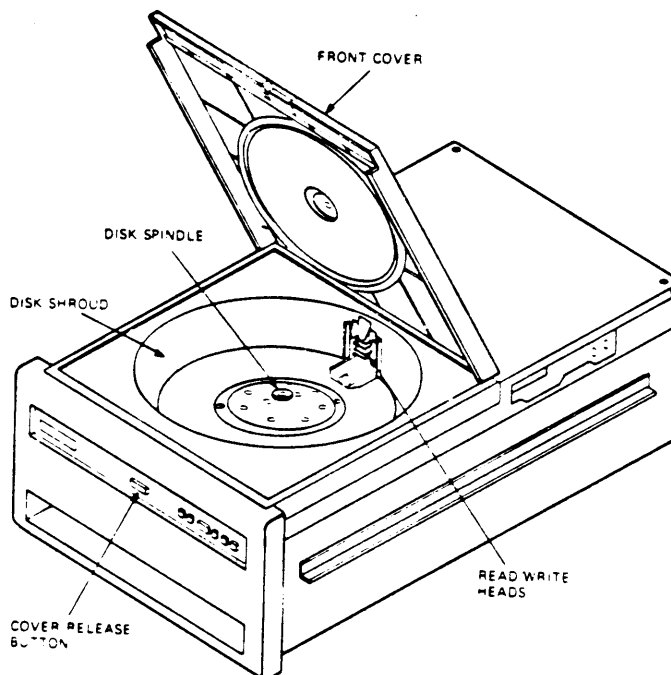

Figure 2-35 Make Sure the Read/Write Heads are Retracted.
- o Look into the disk well (Figure 2-35) to make sure that the read/write heads are retracted from the disk shroud area. Failure to make sure that the heads are fully retracted could cause damage to the heads and/or the disk pack. If the heads are not retracted, refer to the RA60 Disk Drive Service Manual for further information.